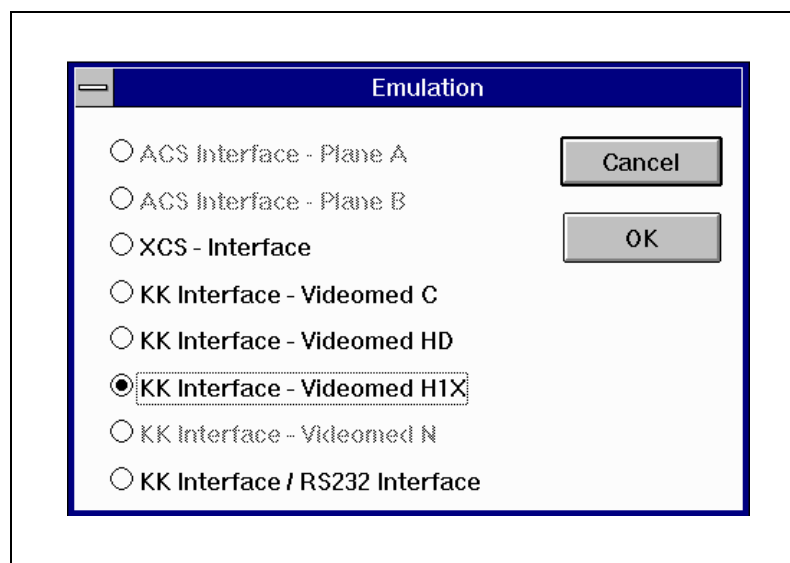

Fig. 3
- Call the mask as shown in Fig.3 via **<Configuration> <Emulation>**.